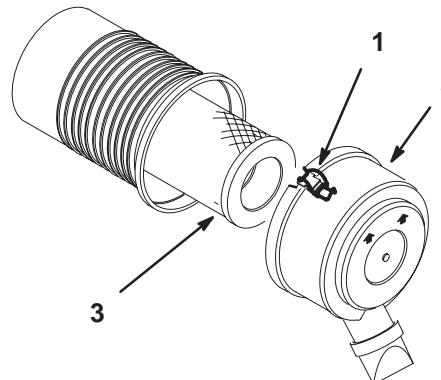

Figure 21
3. Clean around the air cleaner to prevent dirt from getting into the engine and causing damage. Loosen retaining clips and remove air cleaner cover (Fig. 21).
4. Carefully remove filter from compartment (Fig. 21).
- Carefully slide the element into the compartment (Fig. 21).
- Place the air cleaner cover onto compartment and latch retaining clips (Fig. 21).